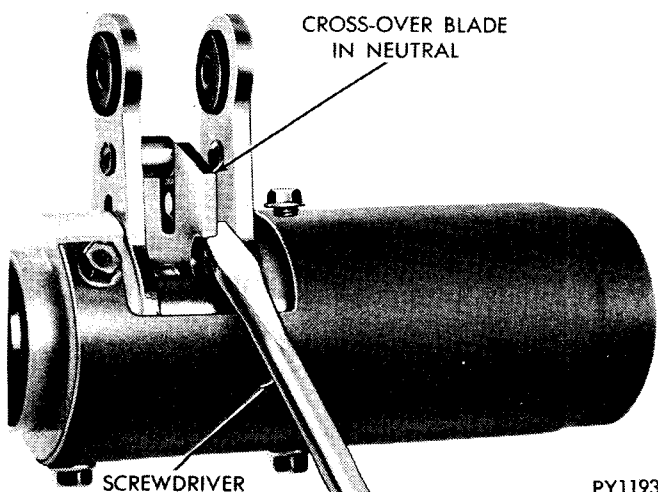

Fig. 5—Holding Crossover Blade in Neutral Position
- (1) Loosen both shift rod swivels.
- (2) Make sure transmission shift levers are in neutral (middle detent) position.
- (3) Move shift lever to line up locating slots in bottom of steering column shift housing and bearing housing. Install suitable tool in slot.
- (4) Place screwdriver or suitable tool between cross-over blade and 2nd-3rd lever at steering column so that both lever pins are engaged by cross-over blade (Fig. 5).
- (5) Tighten both shift rod swivel bolts to 125 inch-pounds.
- (6) Remove gearshift housing locating tool.
- (7) Remove tool from cross-over blade at steering column and shift through all gears to check adjustment and cross-over smoothness.
- (8) Check for proper operation of steering column lock in reverse. With proper linkage adjustment, ignition should lock in reverse position only, with hand off gearshift lever.